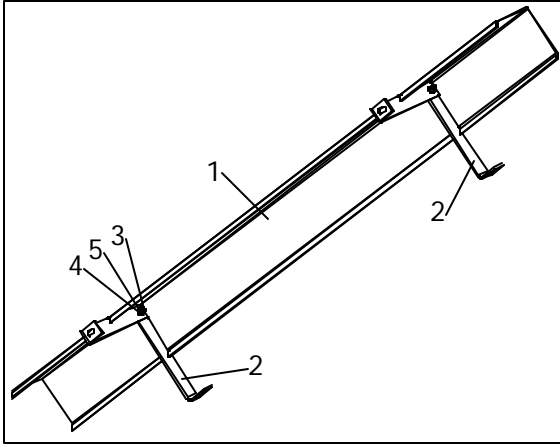

Figure 2 – Inverted "V" Assembly
Slide Supports (2) into Inverted "V" (1) slots as shown in Figure 2. Attach with hardware provided (3, 4 & 5).